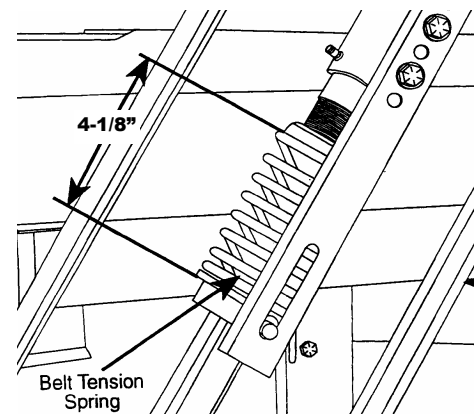

Figure 2-3
1. If the lift belt rubs against the tube assembly when a ball is being elevated, adjustment is necessary. Use a spanner wrench and rotate the upper spring retainer until the length of the spring between the lower retainer and the upper washer is 4-1/8 inches (see Figure 2-3). This should result in the correct belt tension.